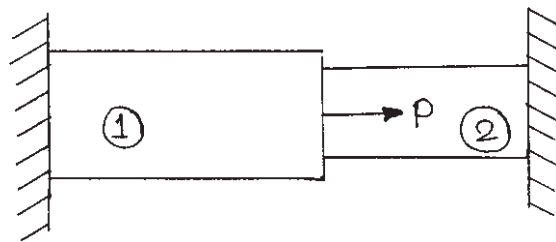

Figure 1.1
b) Determine the nodal displacement and stresses in each element as shown in figure 1.1. Consider the force $P=400$ KN. [8]